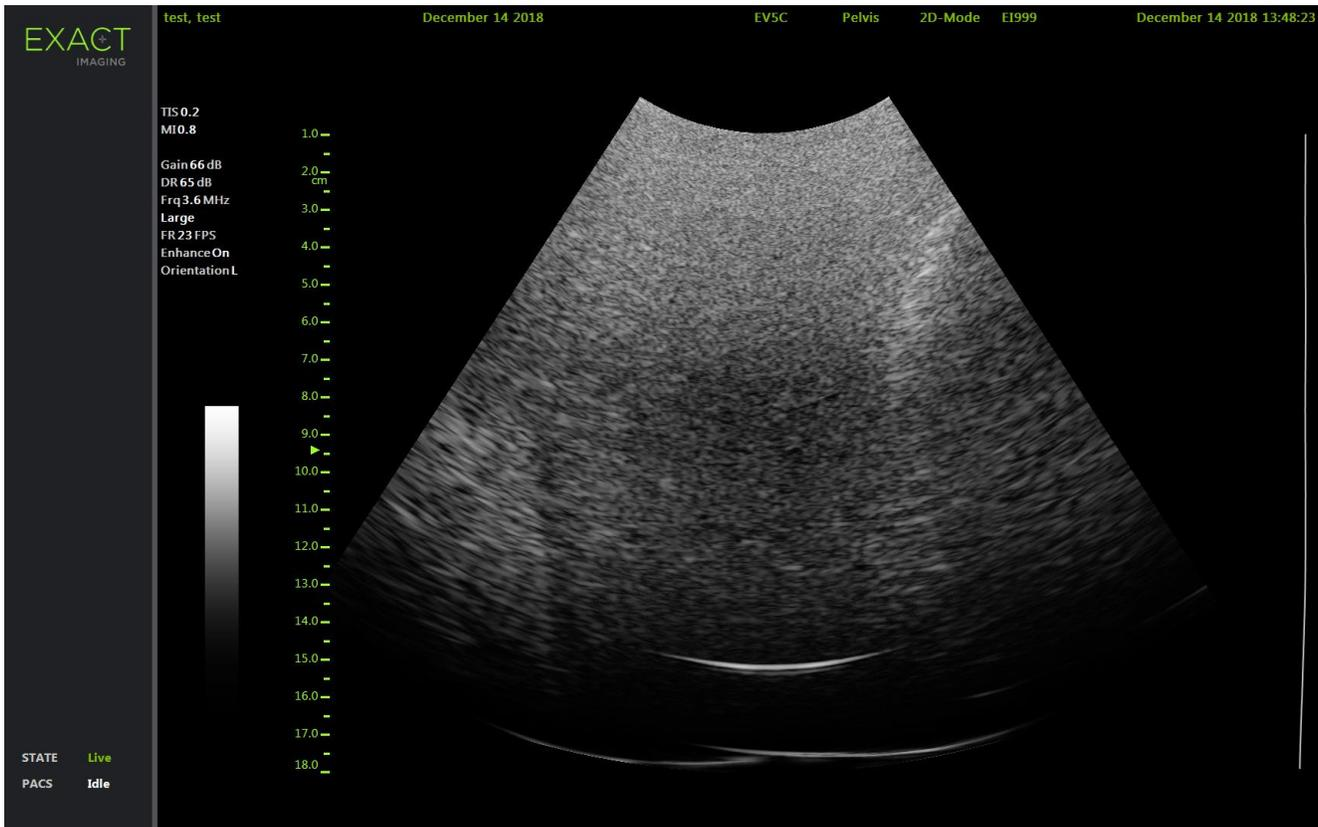

Figure 148: 2D Mode with the EV5C Transducer and Tissue Mimicking Phantom
5. Check that the image looks similar to the image shown in Figure 148 after adjusting settings as follows: